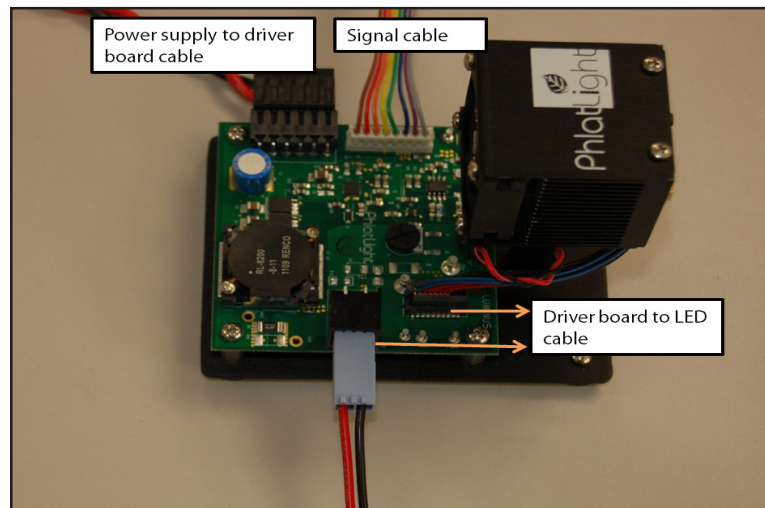

Figure 10: Completed electrical connections on DK-114N-1
2. Connect the driver board to the LED and the power supply using the cables provided in the kit. The choice of the driver board to LED cables is based on the LED connector—LEDs such as PT-39, PT-54 and CBT-40 require the appropriate variant of the shorter 3" cable while LEDs such as CBT-90, PT-120 and CBT-120 with the 2 pin spade connector require the longer cable. Figure 10 illustrates the electrical connections to the driver board; while both types of driver board to LED cables are shown for illustration, only one is required.